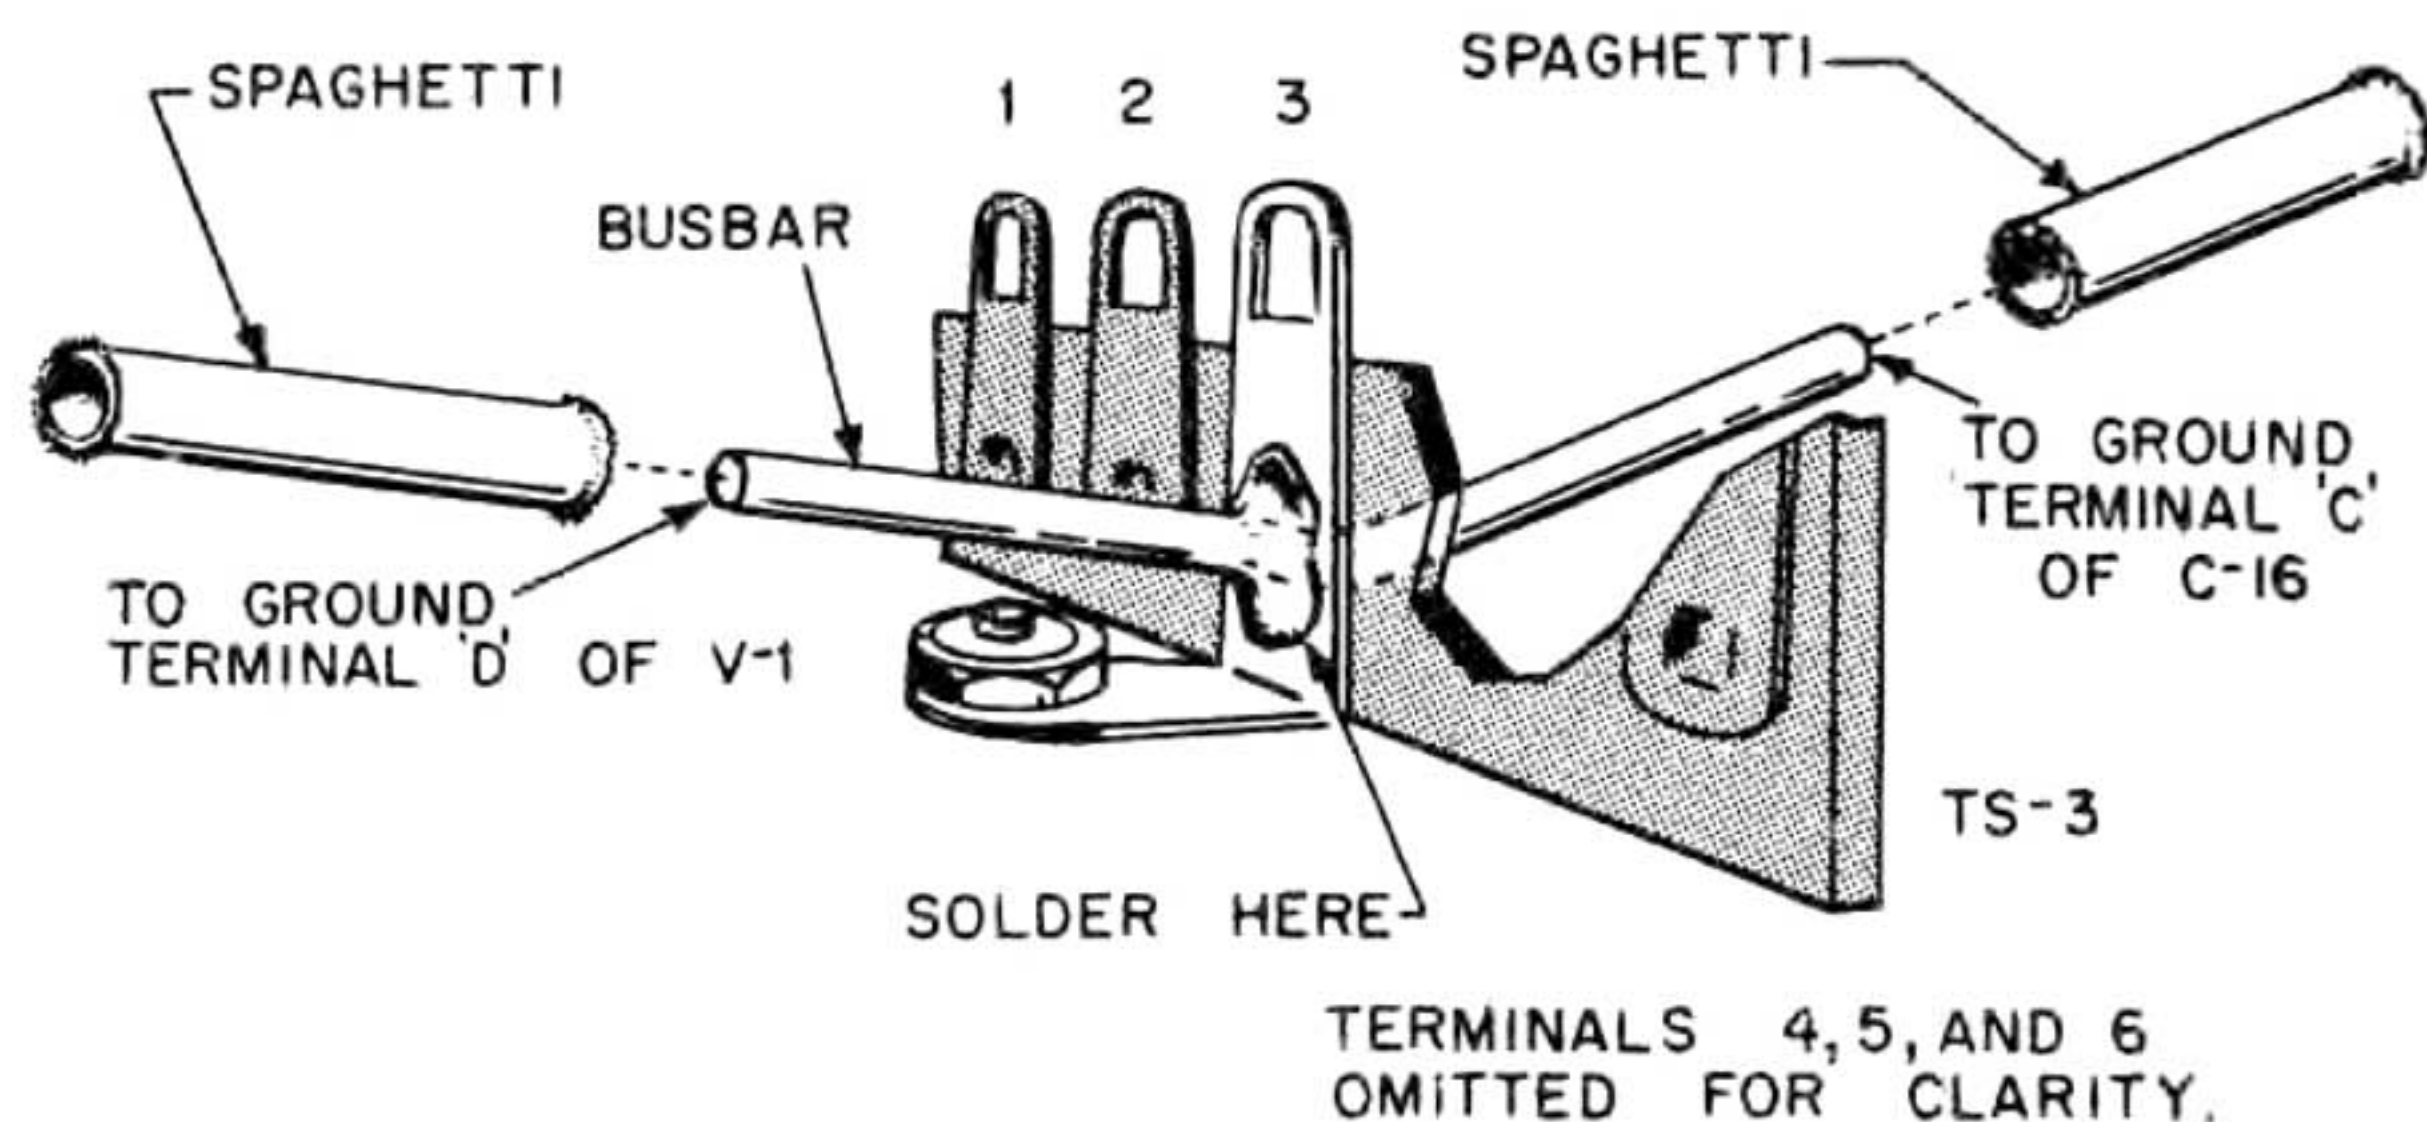

FIGURE 9. DETAIL ON WIRING OF BUSBAR
- See Figure 9. Pass 2 1/8" busbar halfway through the bottom hole of terminal 3 of TS-3. Slip 1" of large spaghetti on the busbar between TS-3 and C-16 to protect the insulated wires under the busbar from the heat of soldering. Solder this end of the busbar to ground terminal C of C-16. Solder top and bottom holes of terminal 3 of TS-3.